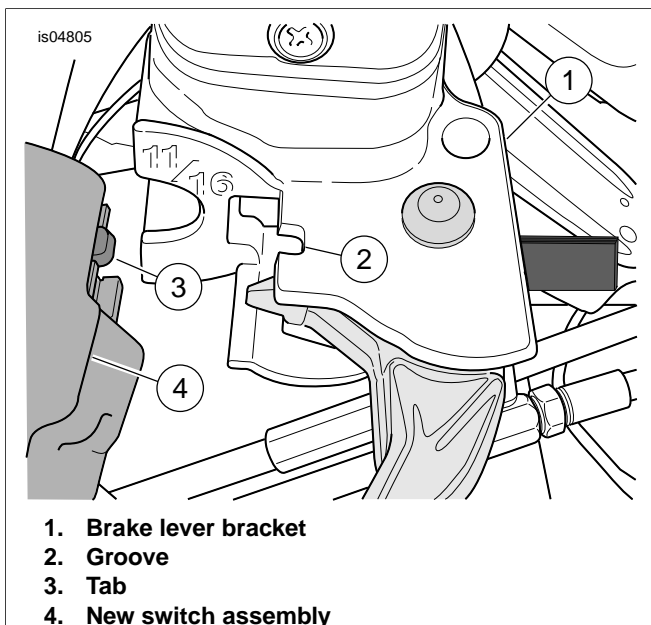

Figure 7. Brake Lever/Master Cylinder and Switch Housing
- See Figure 7. Position the brake lever/master cylinder assembly inboard of the switch housing assembly engaging the tab on the lower switch housing in the groove at the top of the brake lever bracket.